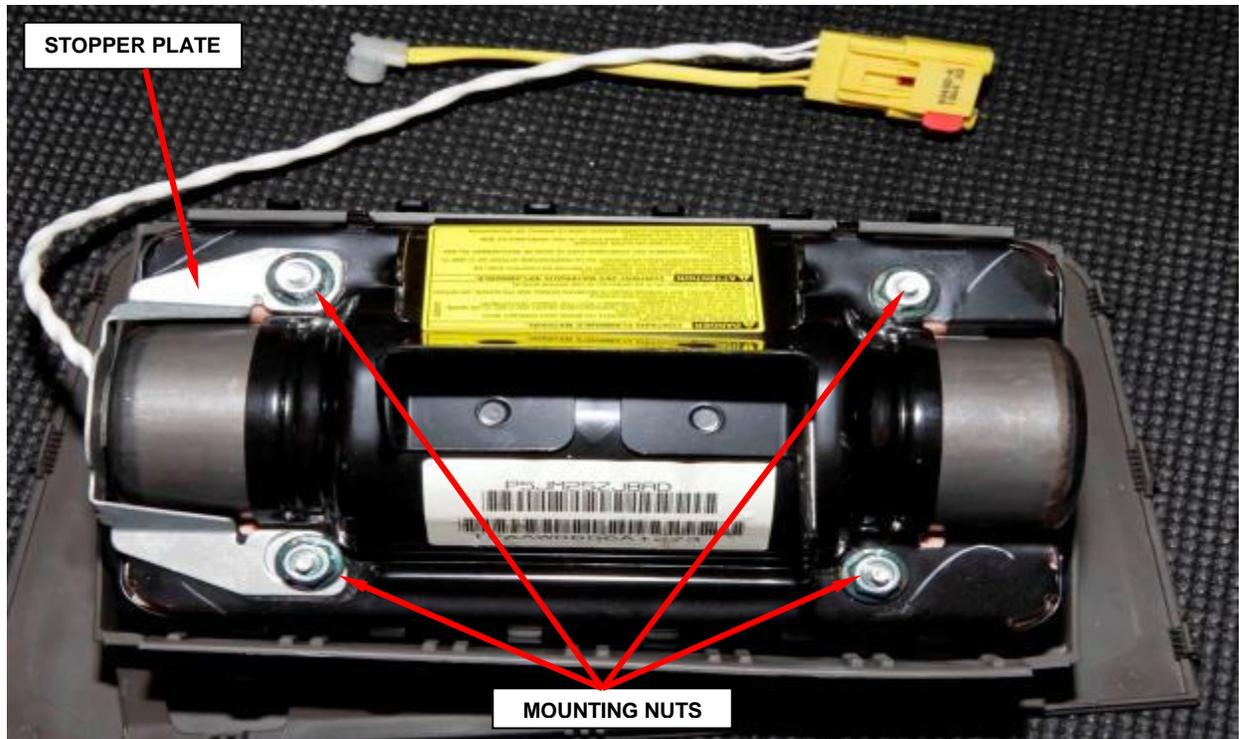

Figure 55 – Mounting Nuts and Stopper Plate
e. Remove and discard the four mounting nuts and stopper plate from the passenger airbag module (Figure 55).
- h. Install the stopper plate to the airbag module (Figure 55).
- i. Install the four new mounting nuts to the airbag module and tighten to 53 in. lbs. (6 N·m) (Figure 55).